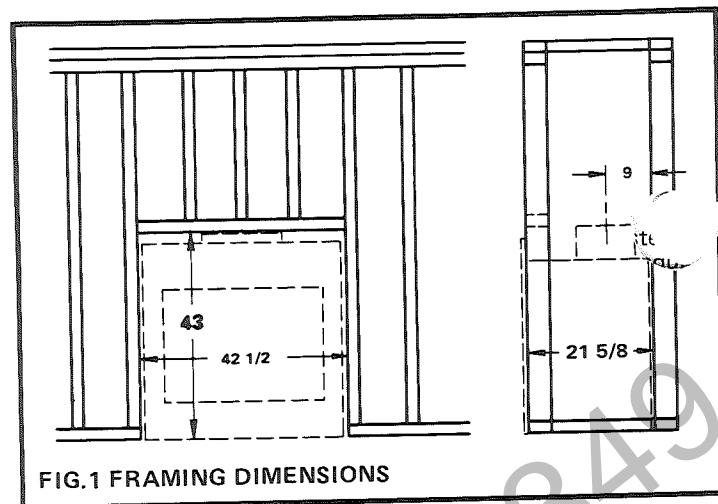
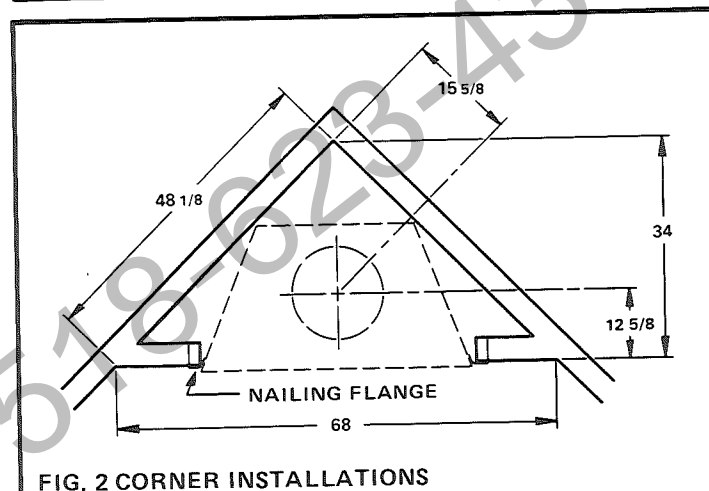
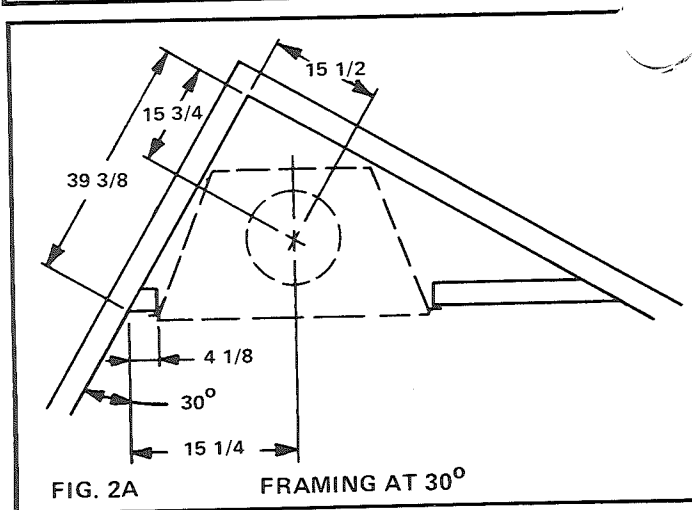

FIG. 1 FRAMING DIMENSIONS
FIG. 2 CORNER INSTALLATIONS
FIG. 2A FRAMING AT 30°
STEP 1: Frame the opening for the fireplace using the dimensions shown in Fig. 1 or Fig. 2, or Fig. 2A.